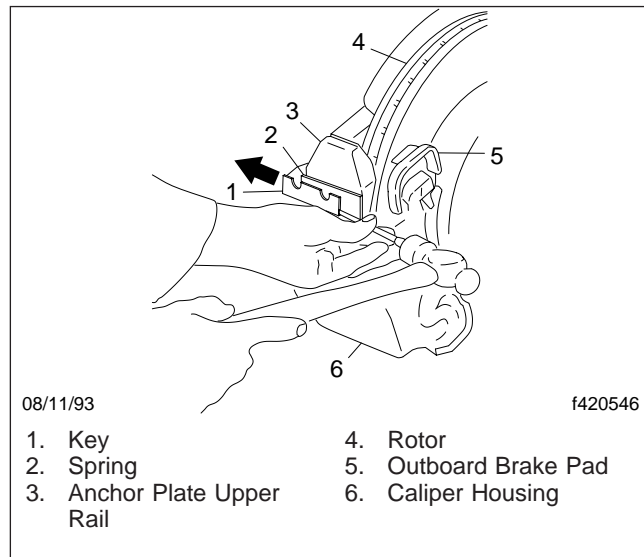
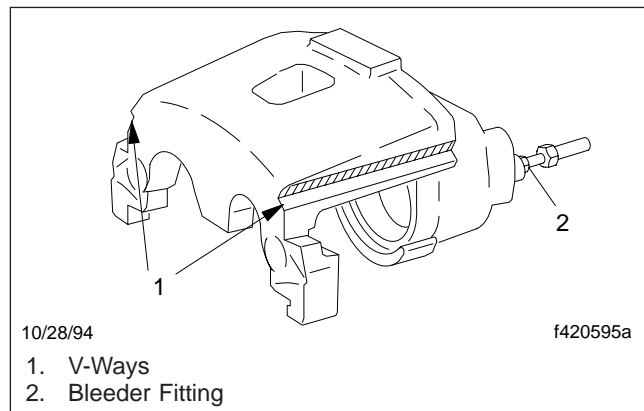

Fig. 7, Drive Out the Key and Spring
Fig. 8, Caliper V-Ways
6. Using a hammer and drift, carefully drive out the key and spring. See **Fig. 7**. Be careful not to nick the anchor plate rail.
slots. Also clean the key and spring. See **Fig. 7** and **Fig. 8**.